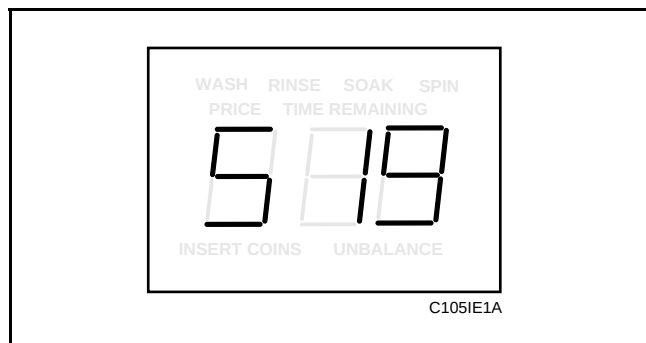

Figure 79
2. While pressing and holding the PERM PRESS keypad with one hand, press the COLD keypad with the other hand. Programmable option number one, “Slg”, will appear in the VFD, **Figure 79**.